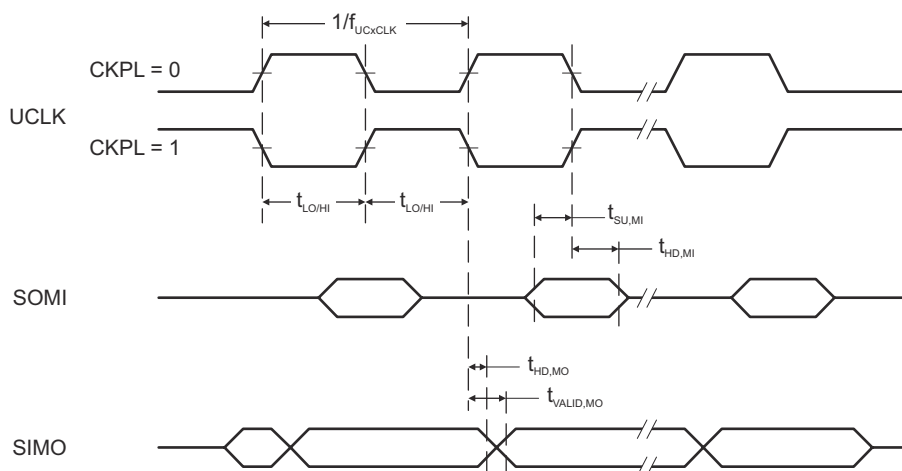
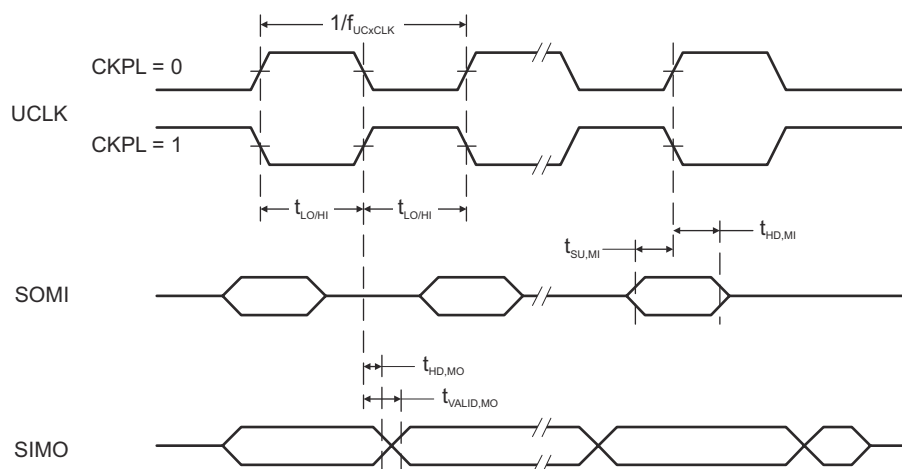

Figure 8-11. SPI Master Mode, CKPH = 0
Figure 8-12. SPI Master Mode, CKPH = 1
(see Figure 8-11 and Figure 8-12)
- Specifies the time to drive the next valid data to the SIMO output after the output changing UCLK clock edge. See the timing diagrams in Figure 8-11 and Figure 8-12.
- Specifies how long data on the SIMO output is valid after the output changing UCLK clock edge. Negative values indicate that the data on the SIMO output can become invalid before the output changing clock edge observed on UCLK. See the timing diagrams in Figure 8-11 and Figure 8-12.